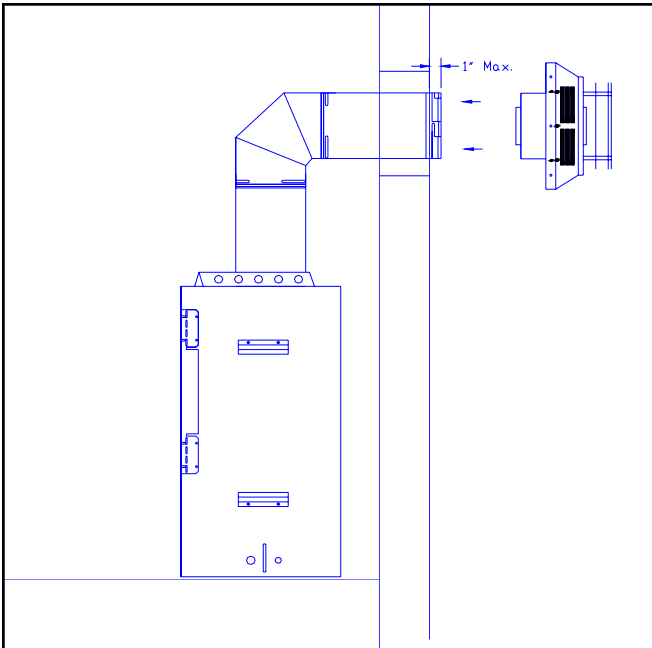

Fig. 12– Pipe Through Wall
4. Install the vertical pipe needed, followed by the elbow to achieve the pre-determined exit height and then extend the horizontal section of vent through the pre-mounted horizontal firestop. The pipe extending through the exterior wall should not extend beyond the surface, which the termination cap will be mounted to, more than 1" but needs to be at least flush with this surface (see fig. 12).